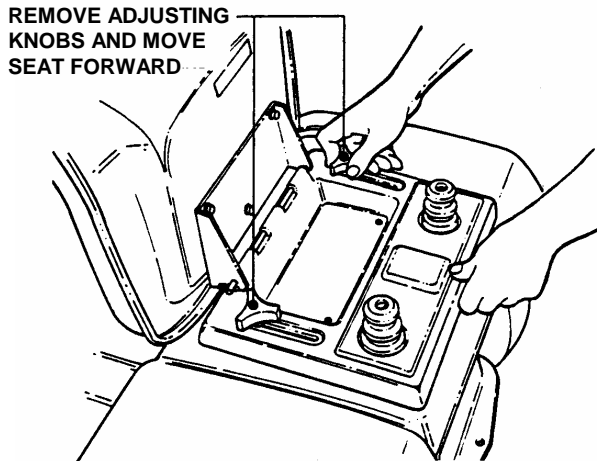

FIGURE 4.34
3. Remove seat assembly and move forward. Use care not to disconnect wires from seat switch. See Figure 4.34.